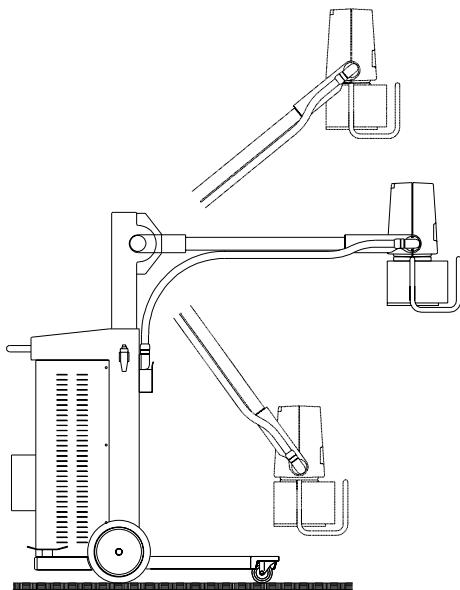

Fig. 6
2. Check the proper arm movement and balancing in every operative condition, as shown in the Fig. 6.
- Verificare la corretta escursione e bilanciatura del braccio in tutte le condizioni operative, come illustrato in Fig. 6.